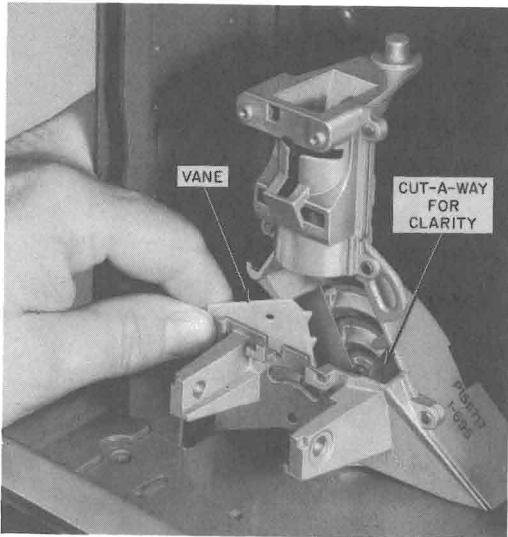
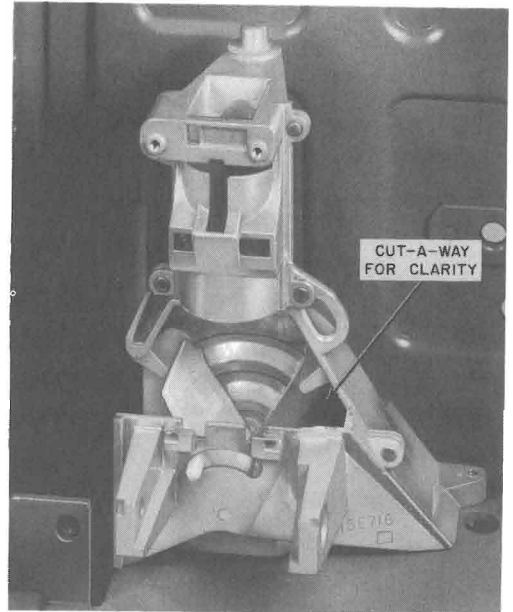
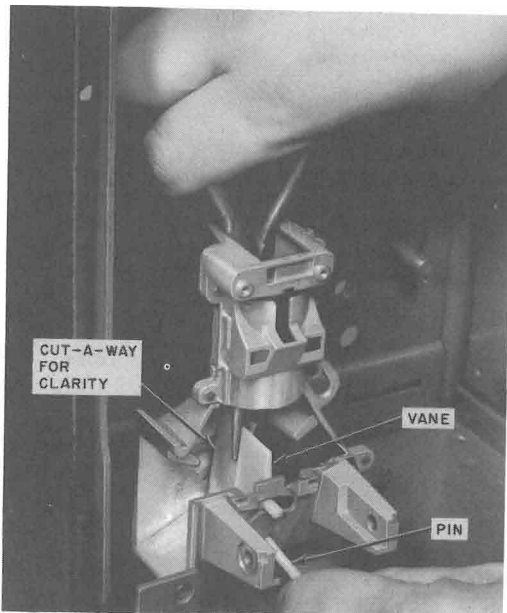

Fig. 3—Inserting Vane
Fig. 5—Vane Installed
Fig. 4—Installing Pin in Vane
- (2) Position vane in hopper (Fig. 3) through left side opening and grasp with long nose pliers (Fig. 4).
- (3) Insert pin (Fig. 4) through hopper housing and vane until indentations on pin snap in place in vane (Fig. 5). Ensure that vane moves freely.